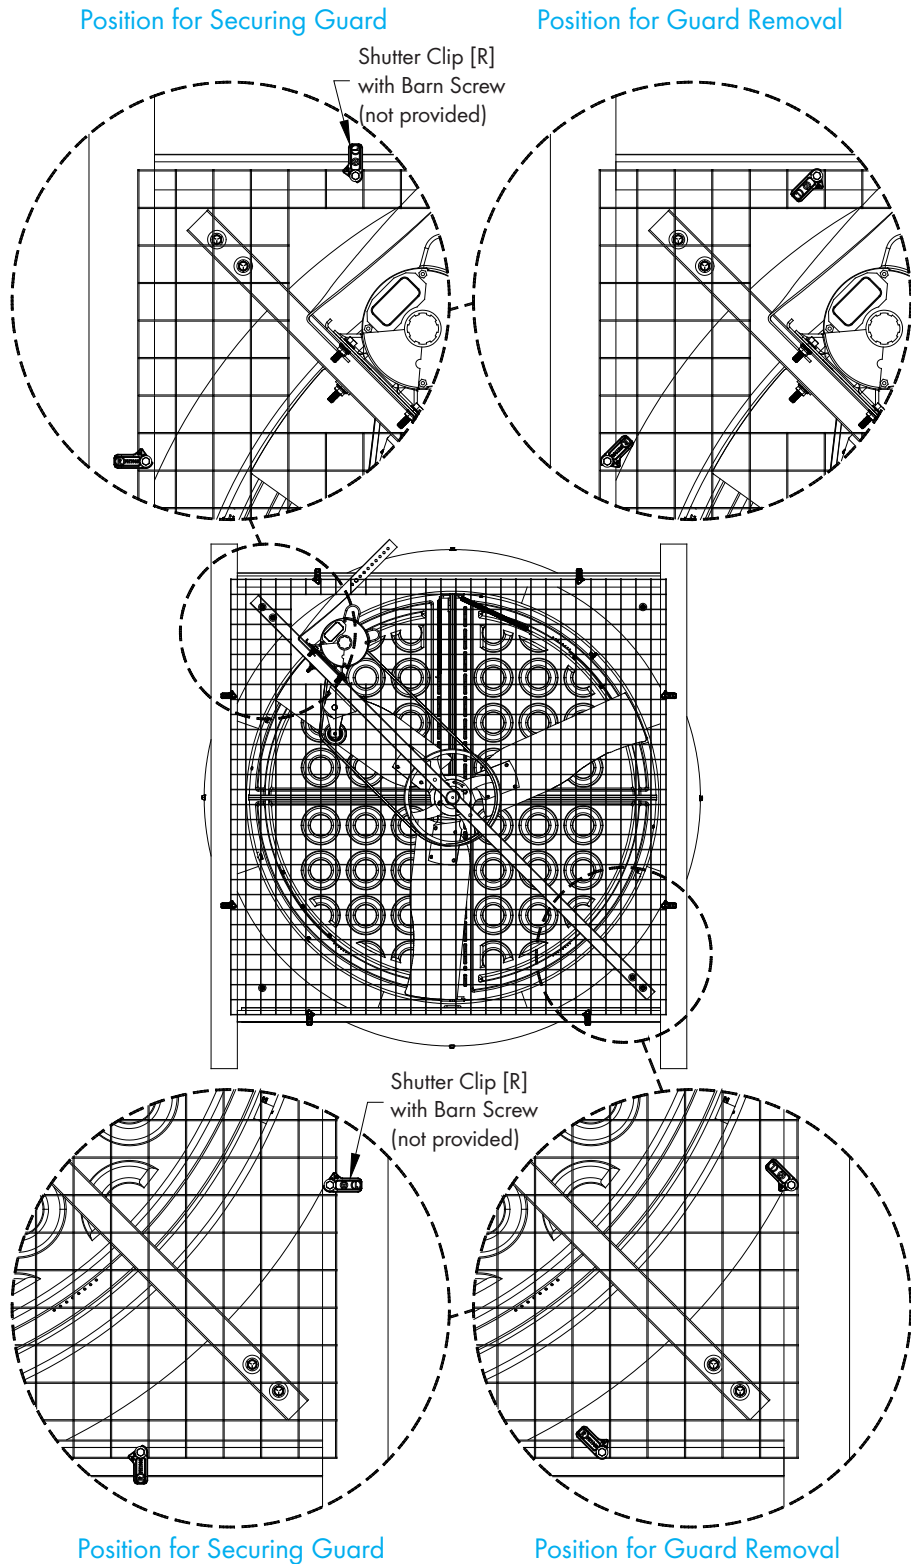

Figure 29B
Place guard against framing and fasten guard in place using (8) Shutter Clips [R] and Barn Screws (not provided), 2 per side. See Figure 29B.